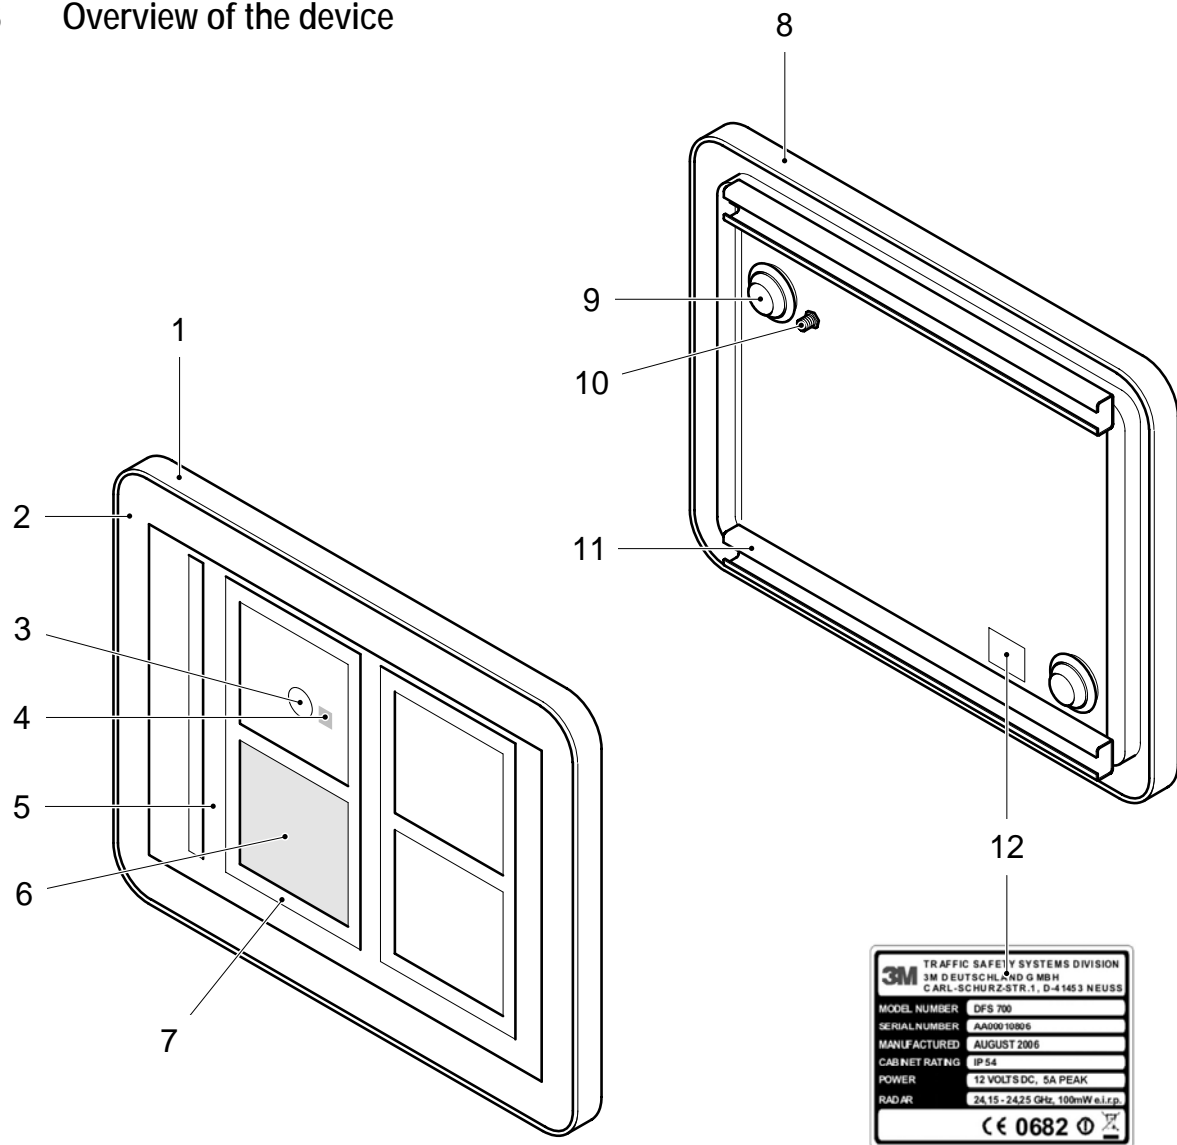
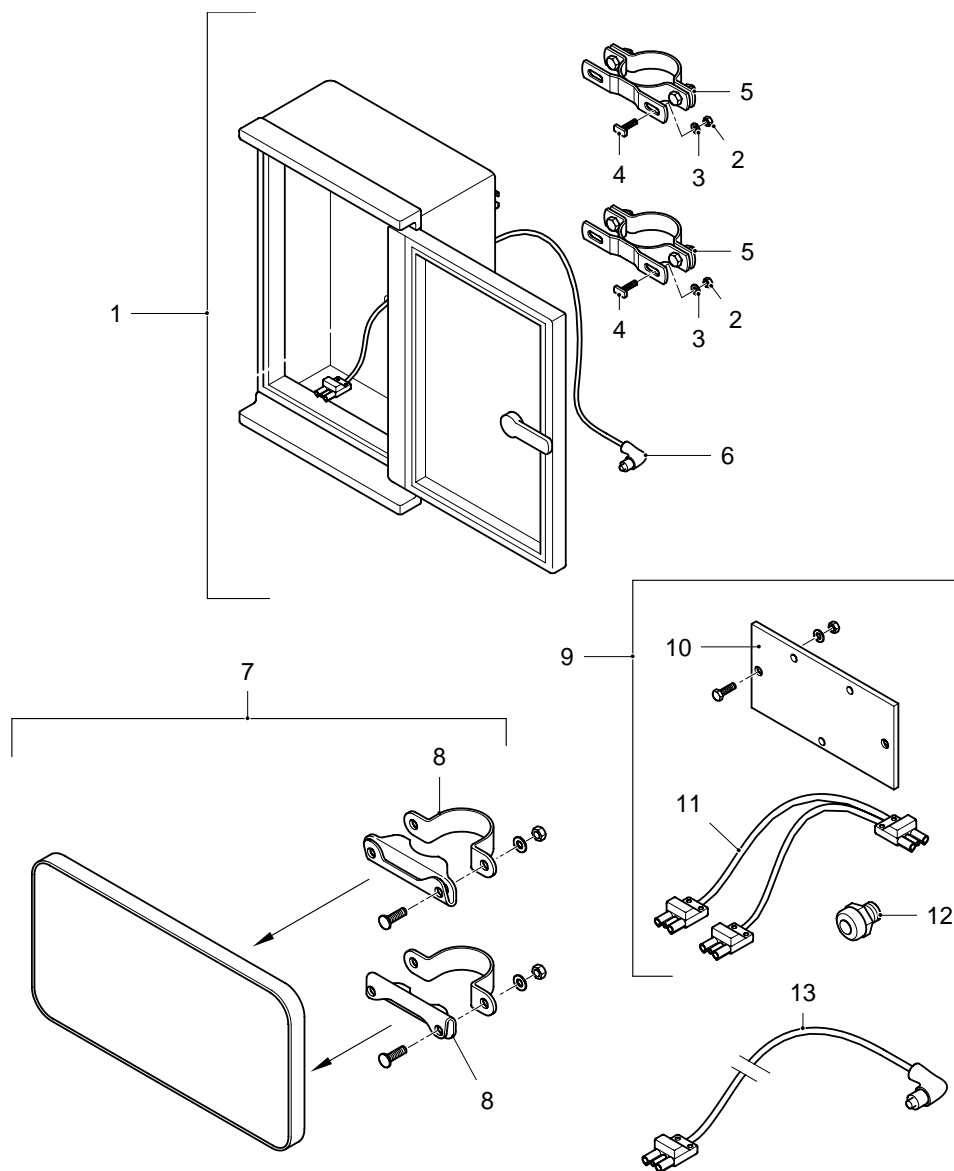

Figure 3-1 Overall view of DFS 600
Figure 3-4 DFS 600 Optional accessories
3.1 = Figure 3.1
The DFS 600 (Figure 3-1) is used to measure and display the speed of vehicles driving into the radar beam. These measurements are displayed in figures to the vehicle just measured.
The spray-protected DFS 600 can be used outdoors at all times and regardless of the weather given the appropriate power supply. Thanks to the reflective coating on the frame (Figure 3-1 Item 2) the DFS 600 can easily be seen during the day and especially in the dark in the headlights. If necessary an additional reflective sign which may show additional written directions (Figure 3-4 Item 9) can be attached above the DFS 600.
In its ready-to-use state (power supply provided and presets selected) the radar sensor (Figure 3-1 Item 6) measures the speed of an approaching vehicle. The radar sensor is located in the lower field of the central figure.
In normal operation this vehicle speed is displayed in LED digits (Figure 3-1 Item 7) on the DFS 600 (Figure 3-1 Item 5). The colour of the digits can be set to red or green.
A suitable light sensor (Figure 3-1 Item 3) is located in the upper field of the central figure.
The electrical connection (Figure 3-1 Item 10) is located on the back of the speed display unit.
The speed display unit has passive internal ventilation provided by two ventilation fittings (Figure 3-1 Item 9). The vents must always be kept clear.
The battery is to be housed safely and in a weatherproof manner in the optional battery box (Figure 3-4 Item 2). This is ensured by the optional battery box. See Section 7.1.3.
The charger mounting kit (Figure 3-4 Item 9) is used to fix the charging device in the battery box. The mounting plate (Figure 3-4 Item 10) is bolted to the battery charger and then this assembly is bolted to the back of the battery box. The cable holders (Figure 3-4 Item 12) are to be inserted through a suitable drill hole to be made in the back wall for feeding through the DFS 600 connector cable. The battery charger, battery and DFS 600 connector cable are connected together via the branching cable (Figure 3-4 Item 11).
The 2 m-long battery cable can be connected directly between the battery and the DFS 600 for the installation work in enclosed spaces (Figure 3-4 Item 13).